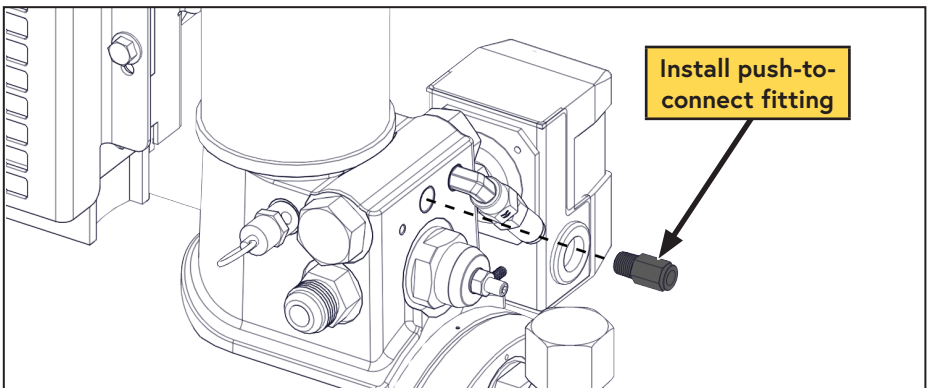

Figure 40 — Install push-to-connect fitting
- Apply Loctite 567 (thread sealing) compound to the 1/4 in push-to-connect fitting and install it into the threaded hole which previously held the blowdown muffler (Figure 40).